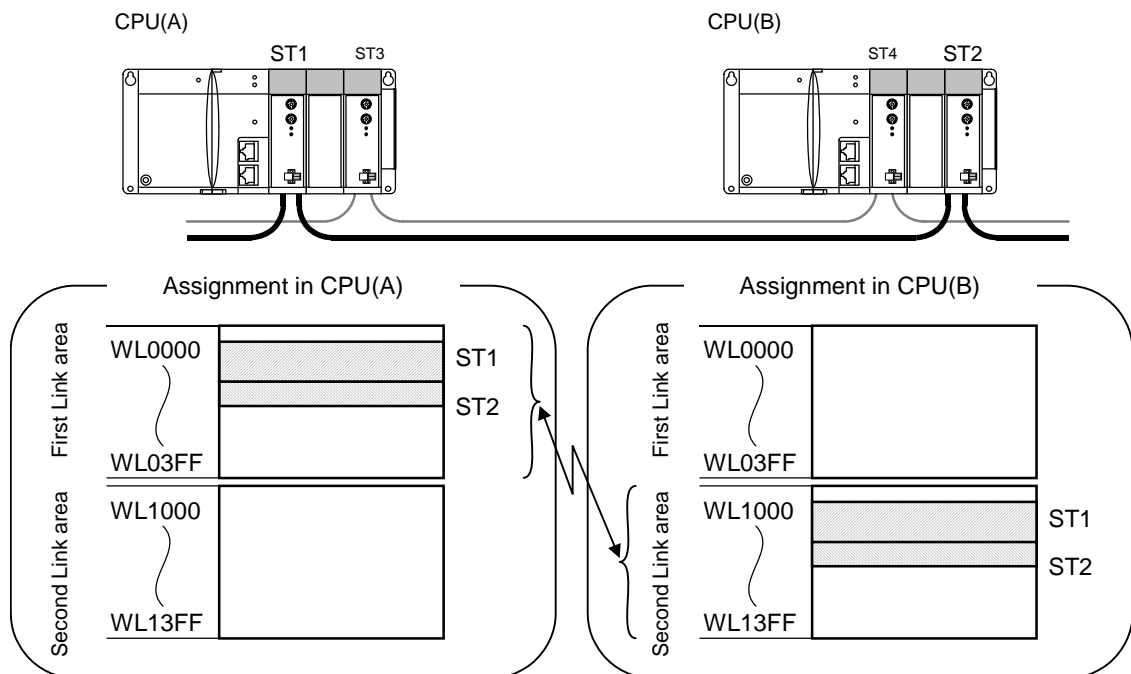

Figure 4.5 Example of link data assignment
An example of a CPU link system configuration is shown in figure 4.5.
In the system configuration shown in figure 4.5, the optical type CPU link module (ST1) with CPU (A) is located in the first CPU link position, and link data assignment with CPU (A) is carried out within the first CPU link area. In addition to this, link data assignment for the CPU (B) optical type CPU link module (ST2) is also carried out in the first link area when viewed from CPU (A).